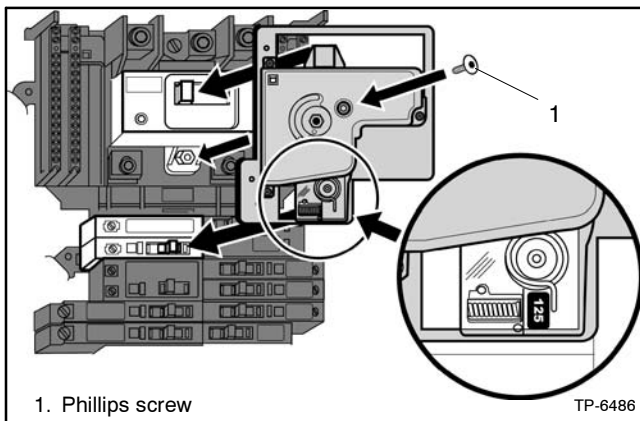

Figure 2-22 Mounting Transfer Mechanism
7. Mount the transfer mechanism, ensuring that the actuator spring is on the right side of the generator circuit breaker handle. Refer to Figure 2-22. Then secure it with one 8-32 x 1/2 in. Phillips screw. Torque the screw to 1.7 Nm (15 in. lb.).